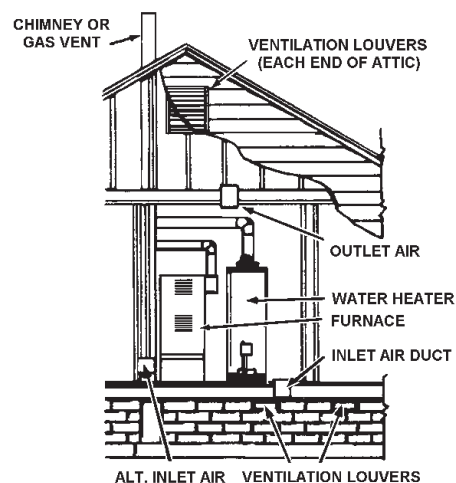

FIGURE 12.
### B. ALL AIR FROM OUTDOORS: (See Figures 12, 13 and 14)
- When directly communicating with the outdoors, each opening shall have a minimum free area of 1 square inch per 4,000 Btu per hour (5.5 cm2/kW) of total input rating of all equipment in the enclosure, see Figure 12.